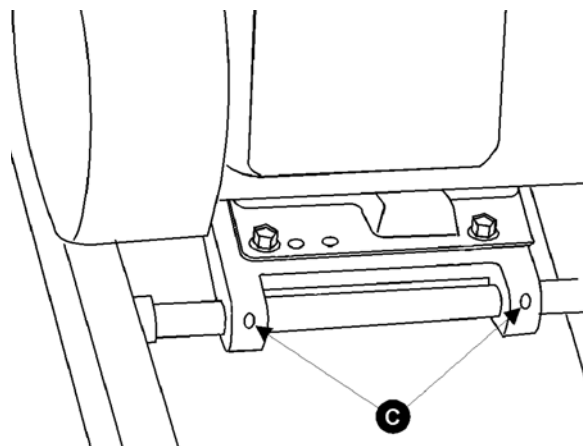

Figure 10
2. Using a straight edge, align the motor pulley (A, Figure 9) and cutterhead pulley (B, Figure 9). The motor plate can be moved for alignment by loosening the set screws (C, Figure 10) in the motor plate.